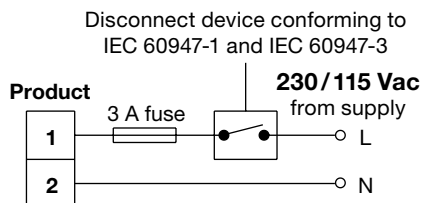

Fig. 4
3. Fuses should be fitted in all live conductors (see Figures 4 and 5).